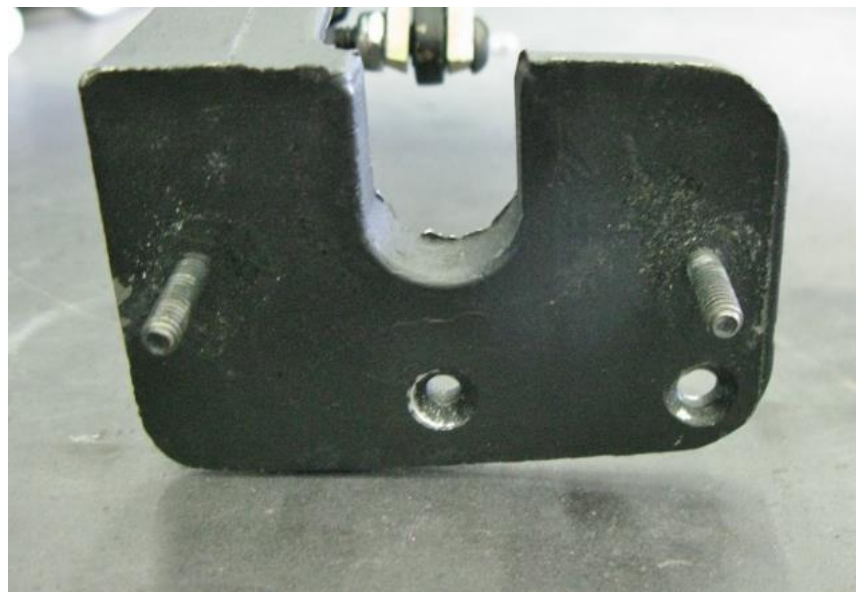

Figure 32 – Drill 2 Mounting Hole Locations
45. Using an 11/64" or 3/16" drill bit, open the 2 pilot holes from the stud side of the bracket where the pilot holes were drilled. Use a large drill bit or chamfer tool on the 2 holes to allow the provided 8-32 flat head cap screws to sit flush in the wiper door assembly bracket (Figure 32).